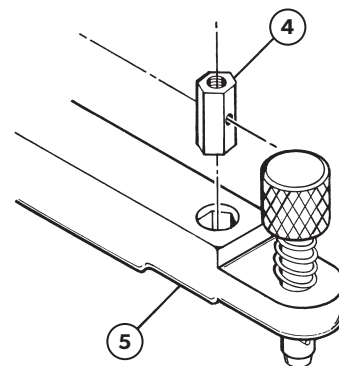

Figure 2.
1. Install shift clamp insert (item 4) into shift casing guide (item 5) with small hole for cable core wire aligned with long axis (see figure 2).